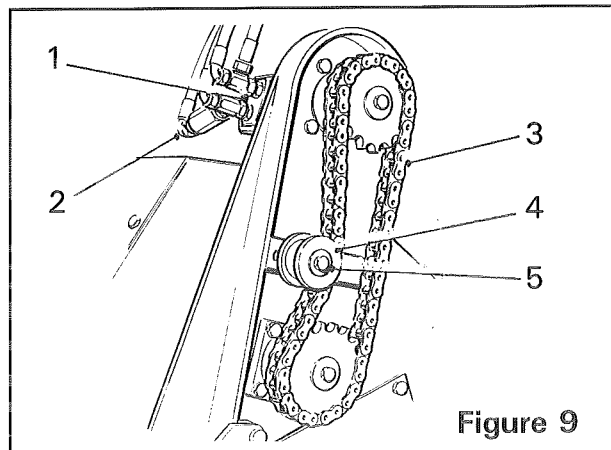

Figure 9
The clod breaking rotor is driven by a hydraulic motor (*item 1, figure 9*). Attached to the motor is a check valve (*item 2, figure 9*) which allows the rotor to gradually slow down when the power has been switched off.
*The check valve (item 2, figure 9) is an important safety feature and must remain fitted and operable at all times.*
The rotor unit drive chain (*item 3, figure 9*) is tensioned by a roller (*item 4, figure 9*). To adjust the chain, loosen the securing bolt (*item 5, figure 9*) and slide the roller to achieve the correct tension. Once achieved, retighten the securing bolt ensuring that the roller is still able to turn.